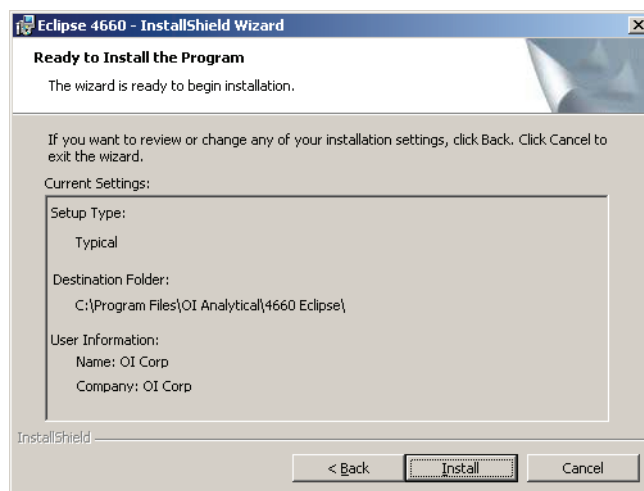

Figure 3.17. Ready to Install screen
6. After reviewing the settings in the Ready to Install dialog box (Figure 3.17), click **Install**.